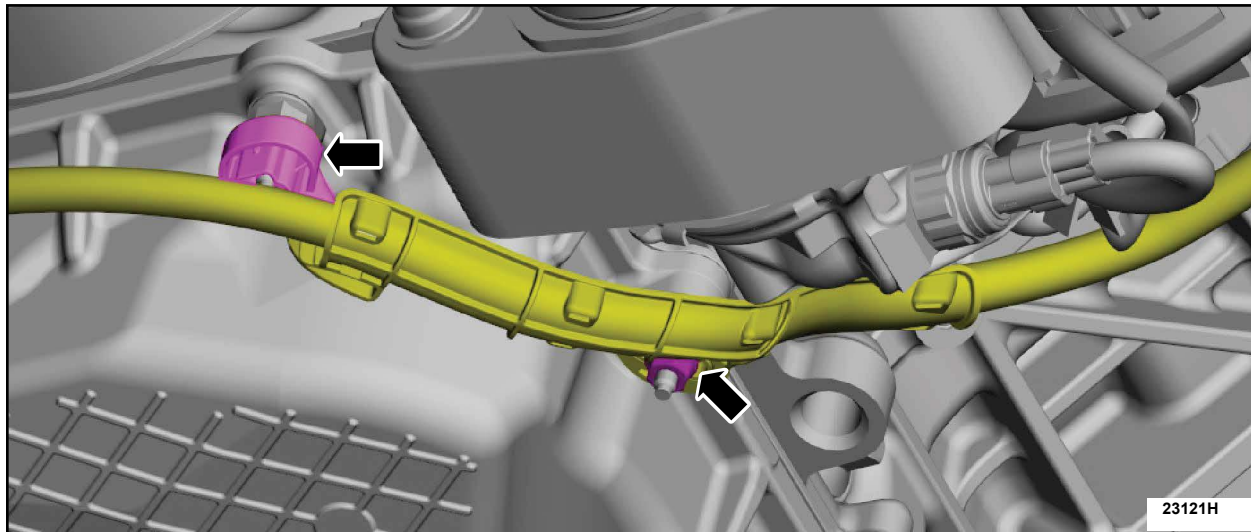

FIGURE 26
41. Attach the wiring harness retainer and install the nut. See Figure 26.